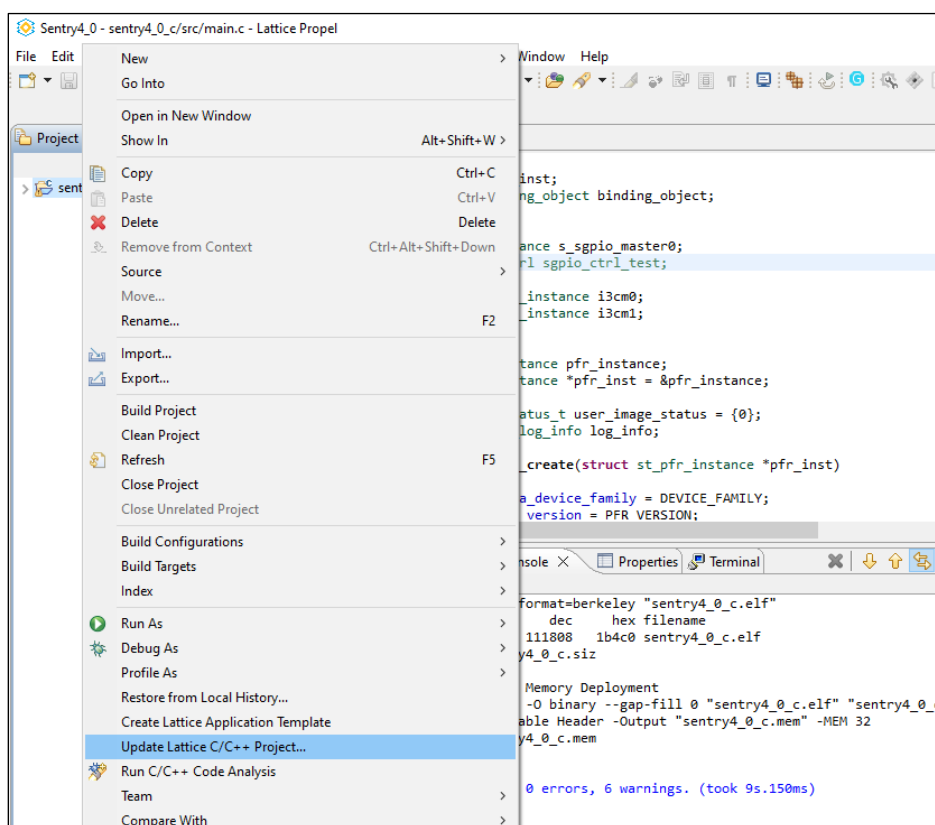

Figure 6.1. Update Lattice C Project
1. In the Project Explorer view of Lattice Propel SDK, right-click on the C project and choose **Update Lattice C/C++ Project...** (Figure 6.1).